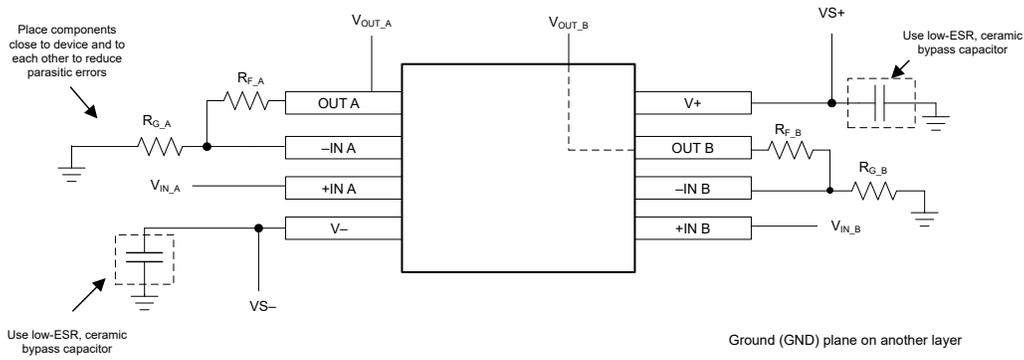

Figure 7-10. Operational Amplifier Board Layout for Noninverting Amplifier Configuration
- Place the external components as close as possible to the device. As Figure 7-10 shows, keep the feedback resistor (R3) and gain resistor (R4) close to the inverting input to minimize parasitic capacitance.